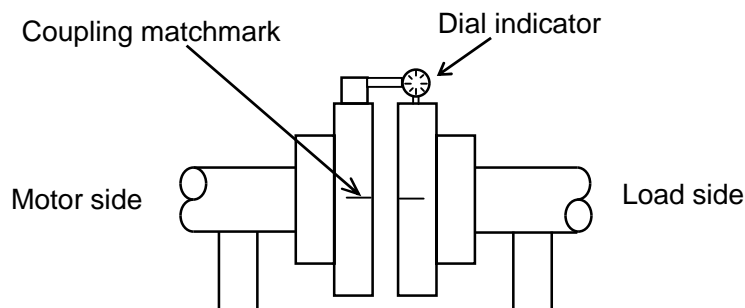

Fig. 3 Centering and alignment method with the coupling as a reference
- (2) As shown in Fig. 3, install the dial indicator onto the coupling of the motor side, measure the parallelism and the degree of eccentricity while quietly turning the rotor of the motor by using the coupling section, and adjust the shaft center. However, since this may vary depending on the type of the machine, also contact the machine manufacturer for further details.